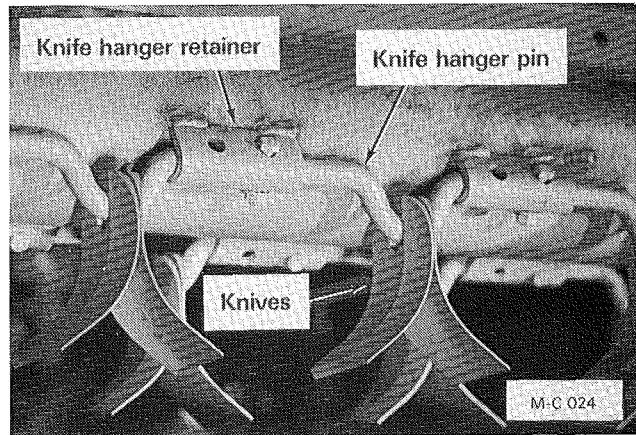

Figure 29
1. Remove the capscrew and locknut from the knife hanger retainer. Slide the knife hanger pin to the left and remove the hanger pin and knives, see Figure 29.